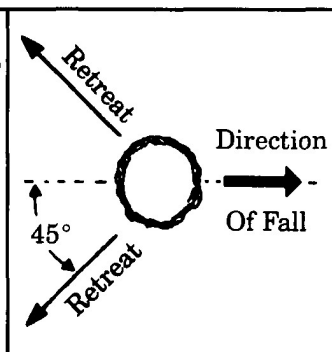

Figure 18
- Plan a clear retreat path** to the rear and diagonal to the line of fall. Figure 18.
Stay on the uphill side of the terrain to avoid injury from the tree rolling or sliding downhill after it is felled. Figure 18.